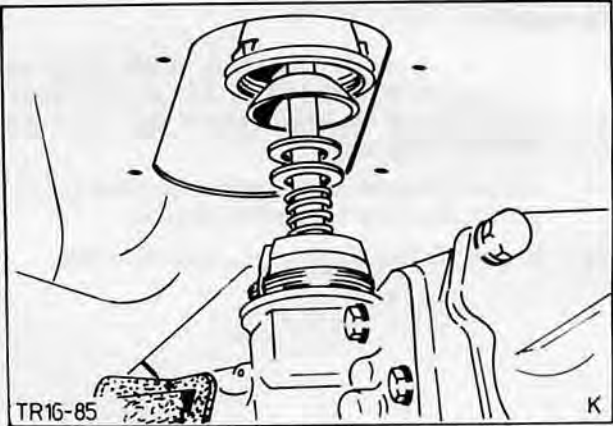

Fig. 136. Take out complete gear lever assembly
- 3. Remove rubber gaiter and plastic cap from underneath, take out gear lever assembly complete, Fig. 136.